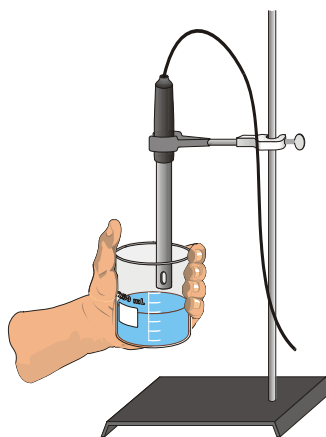

Figure 1
- a. Raise the beaker until the hole in the probe end is completely submerged in the solution as shown in Figure 1. Swirl the solution briefly.